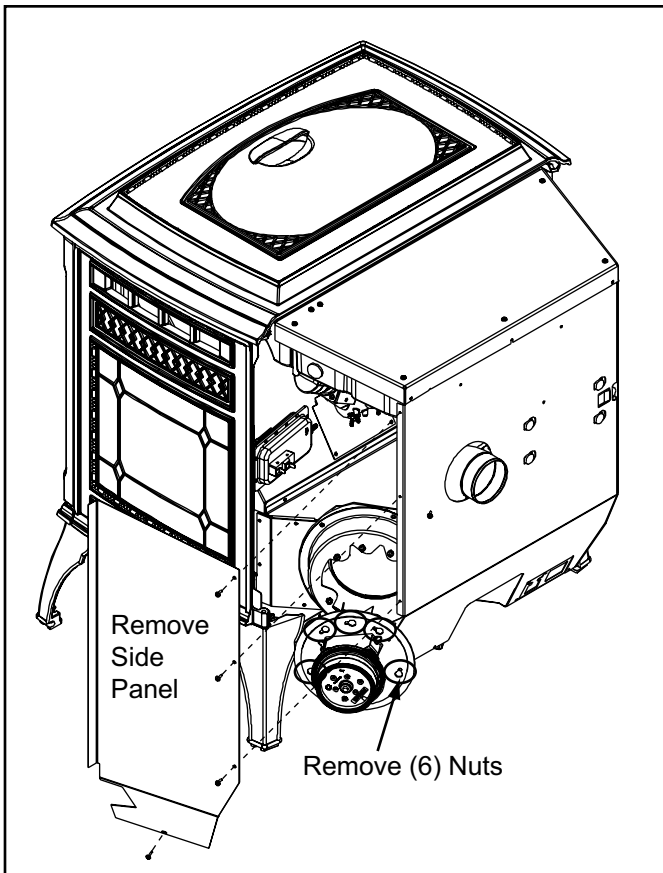

Figure 37.1
2. Remove the right side panel by removing the 4 screws using a Phillips head screw driver. **Figure 37.1.**